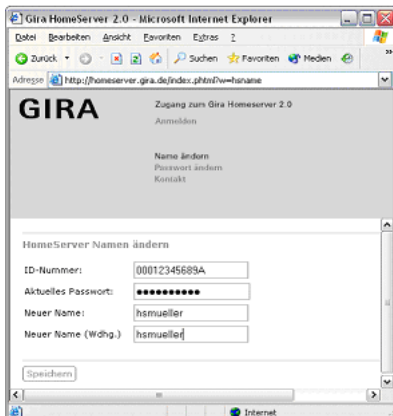

Fig 4.5: Input screen for changing the name.
- Click on **Name ändern** (change name). An input screen appears in which you can make several entries (see Figure 4.5).